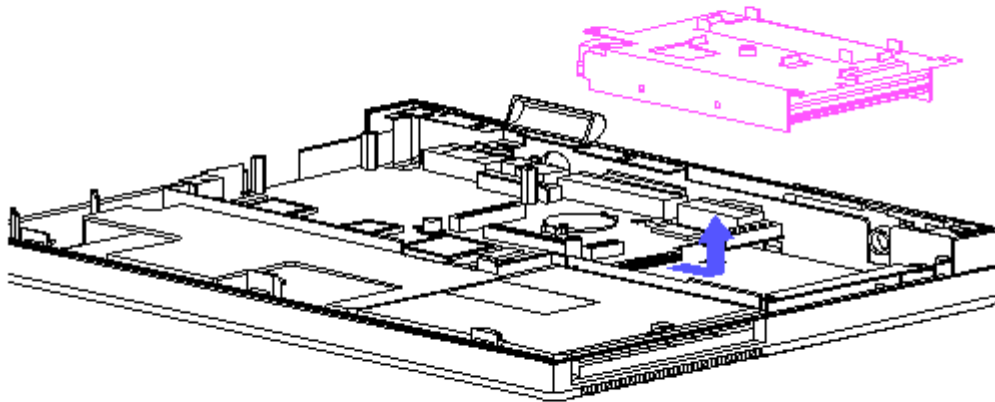

Figure 2-27. Removing the Hard Drive
5. Remove the hard drive bracket, which contains the hard drive, from the system chassis by gently pushing the hard drive bracket in a backward direction. The hard drive bracket pops out and disconnects from the processor board (Figure 2-27).